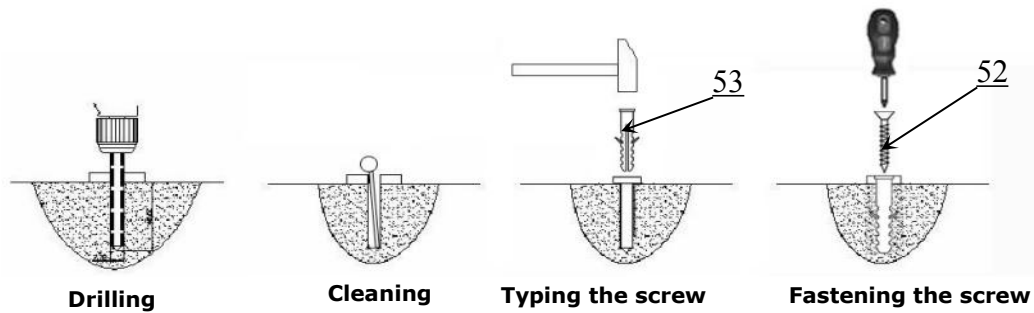

Fig. 24
2. Install the colloidal screw of oil hose cover (**See Fig. 24**).